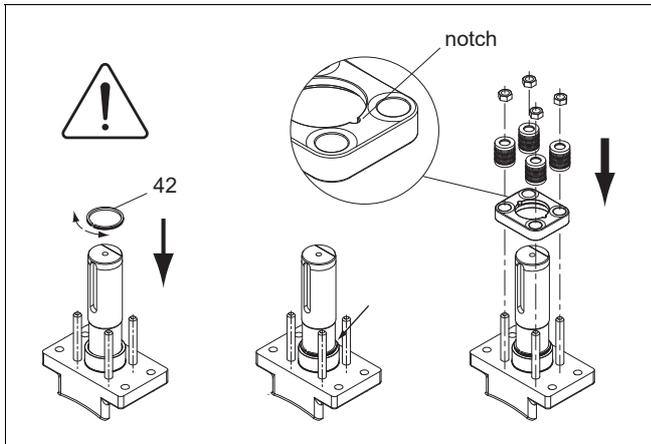

Fig. 20 Mounting the retainer ring
- After fitting the ball and the body gasket, lift the male body half (1) and the seat (7) onto the ball. See Section 4.7.1.
- Check the correct alignment of the bonnet bore with the body joint. Push the bonnet (8) onto the stem.
- Put the bonnet (8) into its place. After tightening the flange bolts loosen the bonnet bolts and remove the bonnet.
- Tighten the flange bolts as indicated in Figure 20. Start from opposite the stem and first tighten the bolts to torques that are 10 % of the values in Table 1. Then tighten them to their final torques in the same sequence.